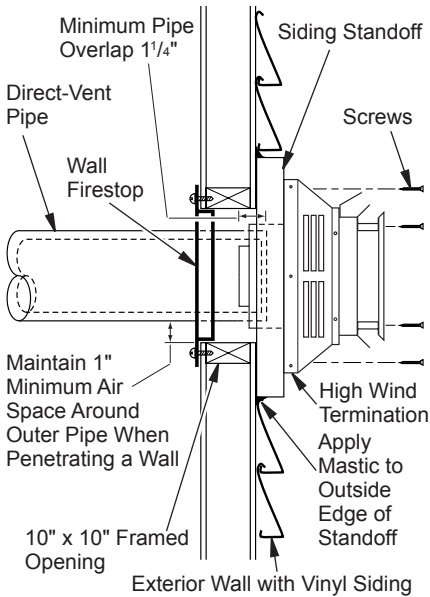

Figure 13 - Typical Horizontal Termination Cap Mounting with Additional Siding Standoff Installed
8. Carefully move fireplace, with vent assembly attached, toward wall and insert vent pipe into horizontal termination. The pipe overlap should be a minimum of 1 1/4" (see Figure 13, page 11).
9. **Combustible Exterior Wall Only:** Slide wall firestop against interior wall surface and attach with screws provided. See Figure 13, page 11, for horizontal termination details.